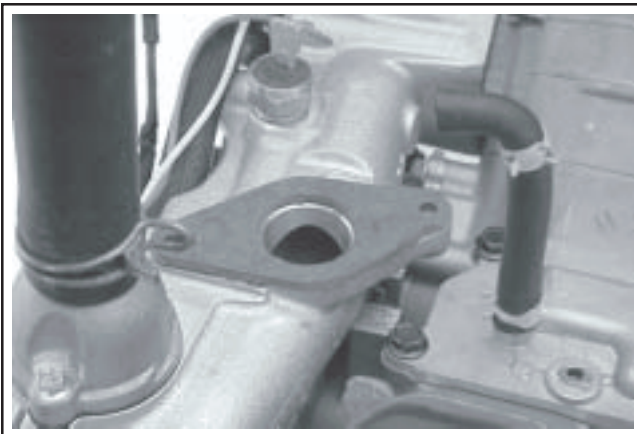

Figure 11-79. Installing Carburetor Gasket on Intake Manifold.
2. Install the carburetor gasket on the intake manifold. See Figure 11-79.